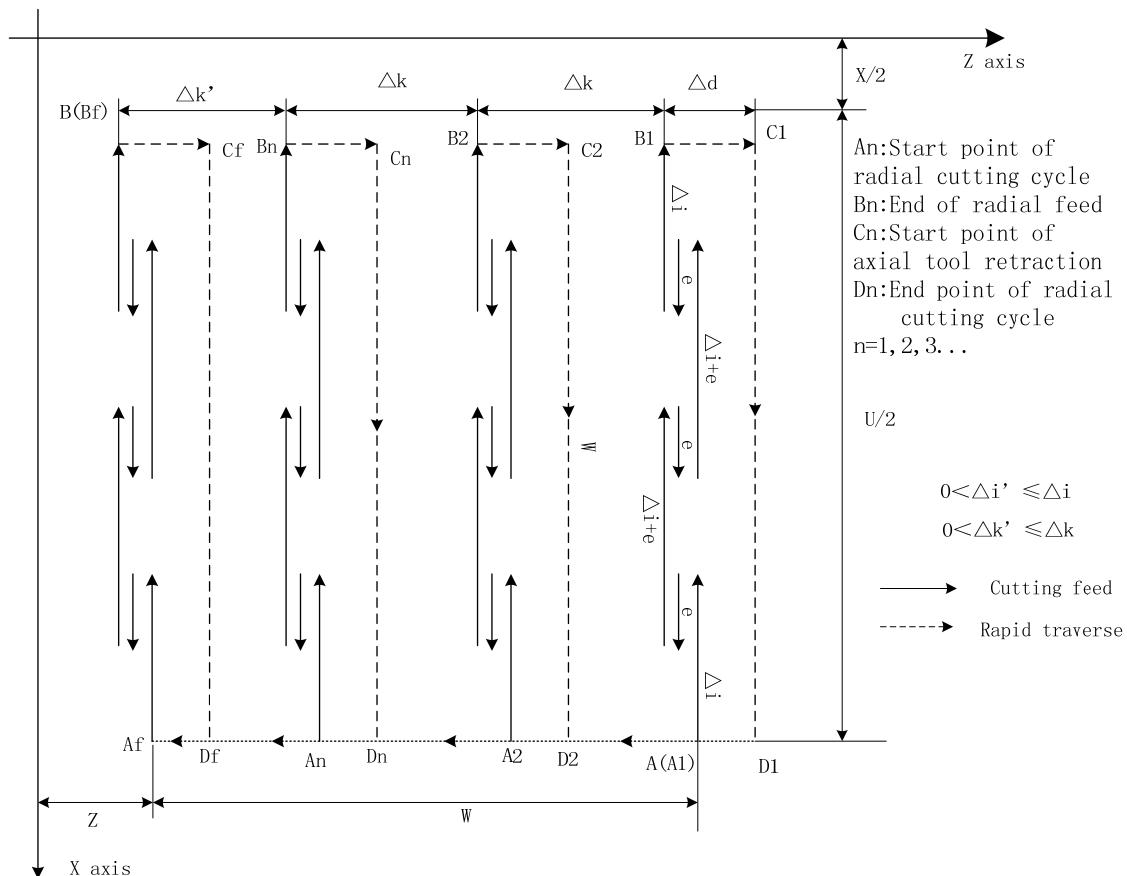

Fig. 2-52 G75 path
**Execution process:** Fig. 2-52
① X executes the radial cutting feed  $\Delta k$  from the start point of radial cutting cycle An. When X coordinate of cutting end point is less than that of the start point, X negatively feeds, otherwise, X positively feed;
- ② X executes the radial tool retraction  $e$  rapidly, and its tool retraction direction is opposite to the feed direction of Step ①;
- ③ When X executes feed cutting ( $\Delta i+e$ ) again, and the feed end point is still between the radial cutting cycle starting point  $A_n$  and the axial tool infeed end point  $B_n$ . It executes the cutting feed ( $\Delta i+e$ ) again, and executes the Step ②; after X executes the cutting feed ( $\Delta i+e$ ), its feed end point reaches  $B_n$  or is not between  $A_n$  and  $B_n$ , X executes the cutting feed to  $B_n$ , and execute the Step ④;
- ④ Z executes the axial tool retraction  $\Delta d$  (radius value) rapidly to  $C_n$ . When Z coordinate of cutting end point  $B_f$  is less than that of the start point A, Z positively executes tool retraction, otherwise, Z executes negatively tool retraction;
- ⑤ X executes the radial tool retraction to  $D_n$  rapidly, and the n times cutting cycle ends. When the current is not the last radial cutting cycle, the system executes the Step ⑥; when the current is the last radial cutting cycle, the system executes the Step ⑦;
- ⑥ Z executes the axial tool infeed rapidly, and its infeed direction is opposite to the Step ④. After Z executes the tool infeed  $\Delta d+\Delta k$  (radius value), the tool infeed end point is still between A and  $A_f$  (it is the start point of the last radial cutting cycle), Z executes the rapid tool infeed ( $\Delta d+\Delta k$ ), i.e., :  $D_n \rightarrow A_{n+1}$ , then executes the Step ① (start the next radial cutting cycle) ; after Z executes ( $\Delta d+\Delta k$ ), the tool infeed end point reaches  $A_f$  or is not between  $D_n$  and  $A_f$ , Z performs the rapid traverse to  $A_f$ , then, executes the Step ①, and starts the last radial cutting cycle;
- ⑦ X rapidly returns to the start point A, and G75 execution processing ends..